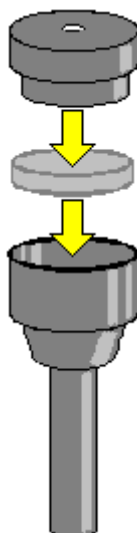

Figure 28 Assembling the septum injector
1. Place a septum into the injector barrel (L225-1286) and push the cap (L225-1287) into the barrel, trapping the septum, as shown in Figure 28.